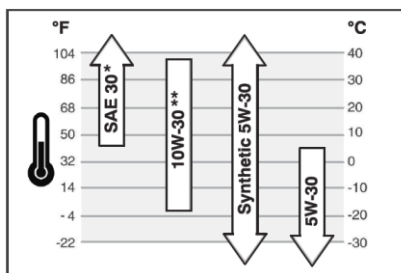

Figure 25
1. Locate the oil drain plug, See figure 25
3. Clean area around oil drain plug, see Figure 25